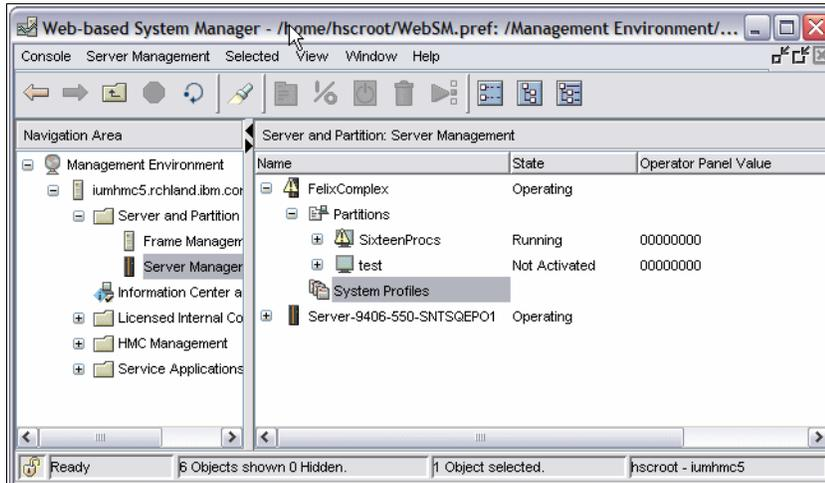

Figure 11-28 FelixComplex System
The following procedure shows the how to schedule the i/o removal, adding, and movement. From Figure 11-28 below, we can see two systems. In this section, we are using the system *FelixComplex*.
- ▶ To check the i/o resources of the system (FelixComplex) shown in Figure 11-28 above, run the script `iodetails` as shown below in Figure 11-30.